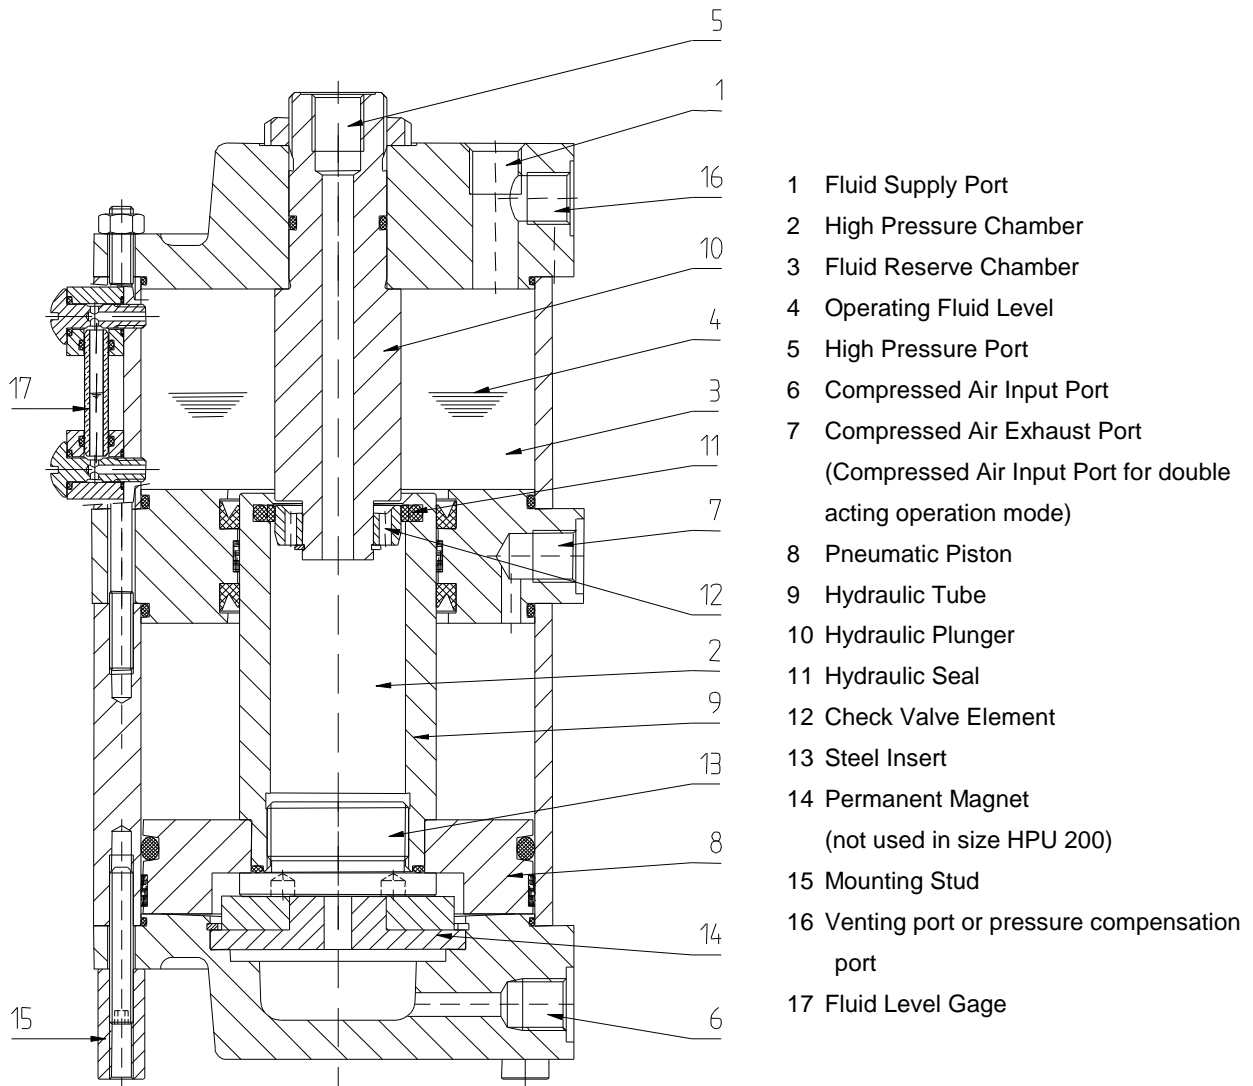
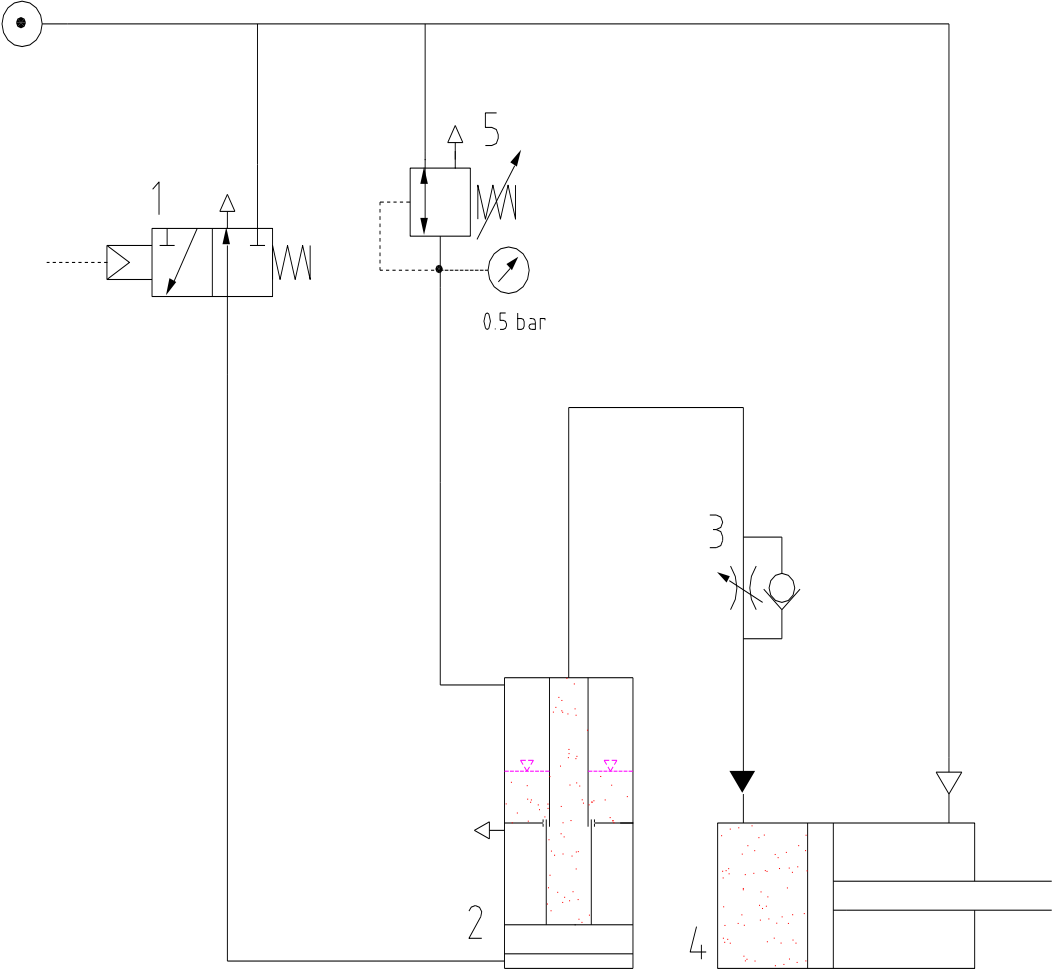
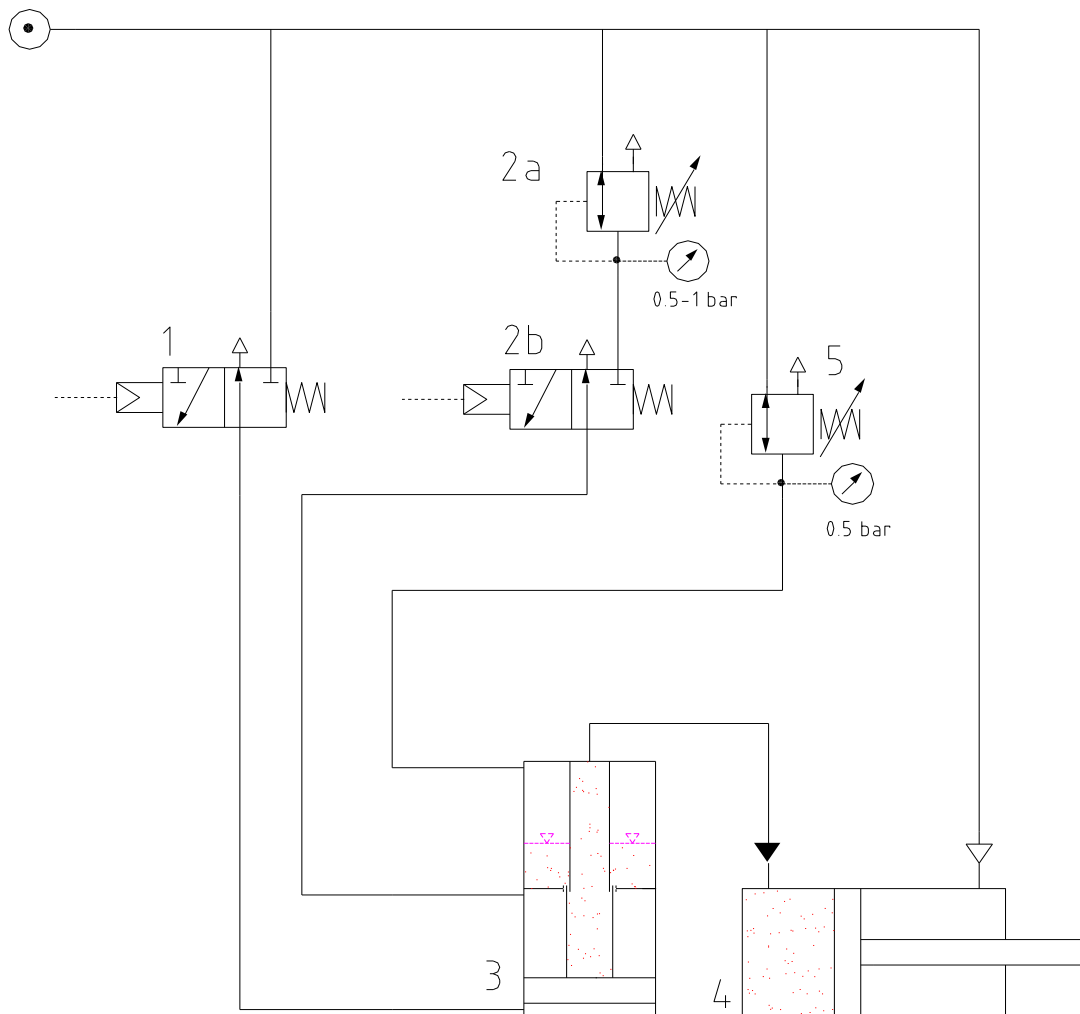

Fig. 1 Crossection of HPU Pressure Intensifier
Fig. 2 Single-Acting Operation
Fig. 3 Double-Acting Operation
The HPU Pressure Intensifier can be installed to operate in either SINGLE-ACTING (Fig.2) or DOUBLE-ACTING (Fig.3) Mode
In **Single-Acting Operating Mode** (Fig. 2) the oil column is returned from the Work Cylinder to the Pressure Intensifier until the internal Check Valve #12 opens. Piston #8 with the integral steel insert is completely pulled into its starting position by the magnetic field of the Ring Assembly #14 (Fig. 1). Thus, any leakage from the drive is automatically compensated for and air is prevented from entering the system by the dynamically acting Seal # 11 and the internal Check Valve #12.
In order to reduce the work cycle time in a system using a Pressure Intensifier, it is recommended that an Air Pressure Regulator #5 (relieving type) set at approx. 0.5 to 1 bar (7 to 14 psi) be applied at port #16 (Fig. 1).
In order to improve the efficiency and, in particular, to increase the speed at which the Pressure Intensifier can stroke, the system can be operated in Double Acting Mode (Fig. 3). For this mode port #7 should be pressurized with 0,5-1 bar. Without this measure, chances are that the Pressure Intensifier will run ahead of the Work Cylinder causing a negative pressure in piping and Work Cylinder. This would result in air entering the system. For additional speed there could be used a quick exhaust valve at port #6.
- The Pneumatic Piston #8 (Fig. 1) is in the starting position.
- The Pressure at port #16 (Fig. 1) must be zero.
Before starting the filling process at port #1 (Fig. 1) the hydraulic connection at the Work Cylinder should be loosened to permit the air in the hydraulic piping to escape. As soon as fluid starts to leak out, the connection must be tightened again. By using a funnel to charge the system with fluid, the air in the Reserve Chamber #3 will be vented during the process.
- The Pressure Intensifier is charged through port #1 (Fig. 1) with an industrial oil, such as type DIN-E 51 524 or Mobil Vactra #1, until the fluid level on the indicator has reached the mark of approx. 2/3 full.